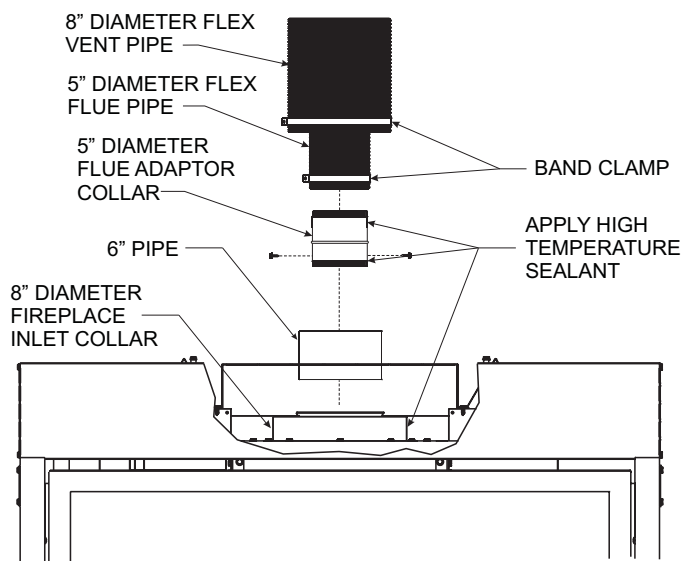

Figure 70
- Apply sealant to the outside of the flue pipe adapter and connect to the flex flue pipe. Then insert the adapter into the fireplace flue. Secure flue adapter to the fireplace flue with a minimum of two screws provided. **See Figure 70.**